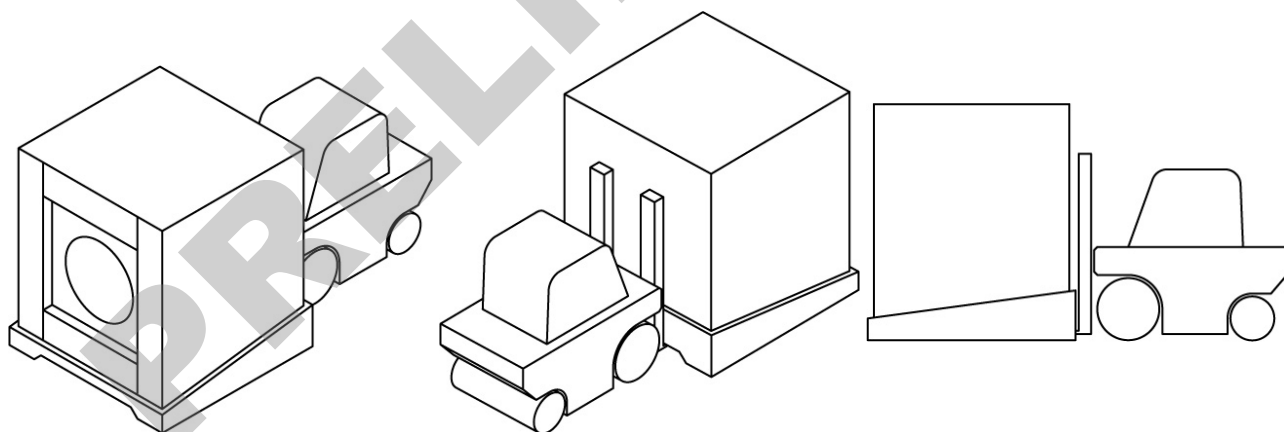

Fig. 3.5 Forklift to Machine Approach Direction
- Approach and lift from behind the machine. Refer to the **Fig. 3.5** "Forklift to Machine Approach Direction" on page 27.